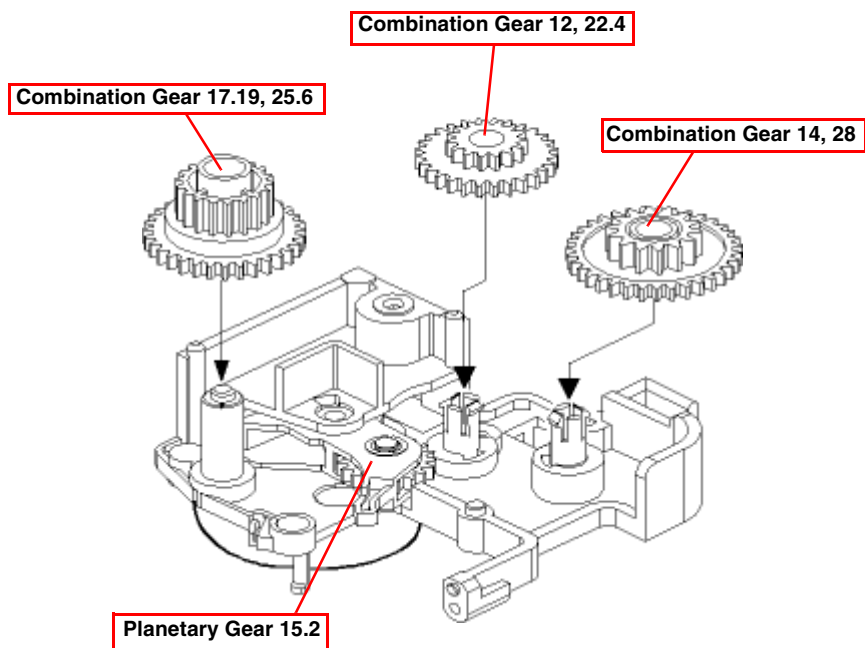

Figure 4-26. Gear Engagement in DE Assembly
- 15) Push down Planetary Gear 15.2 unit to the Pump drive engagement side to release the pinion gear of ASF/Pump motor in the DE Assembly. (See Figure 4-26.)
- Check that all gears are assembled in the DE unit. Refer to Figure 4-26.